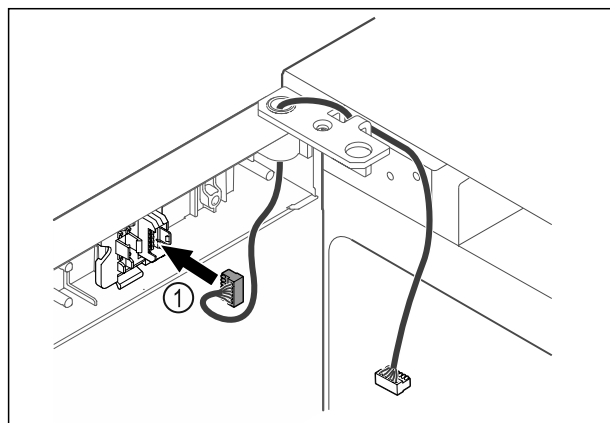

Fig. 42
- Put the plug Fig. 42 (1) in the plug holder.